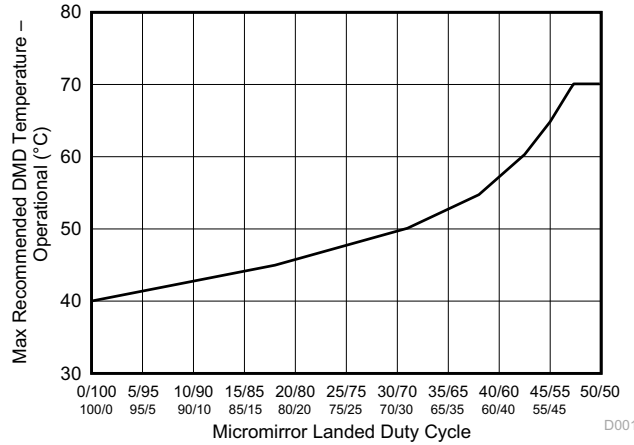

图 7-1. Maximum Recommended DMD Temperature - Derating Curve
- (6) Per 图 7-1, the maximum operational case temperature at test points TP1 and TP2 as shown in 图 8-3 or 图 8-4 should be derated based on the micromirror landed duty cycle that the DMD experiences in the end application. Refer to Micromirror Landed-on/Landed-off Duty Cycle for a definition of landed duty cycle.
- (7) Long-term is defined as the average over the usable life.